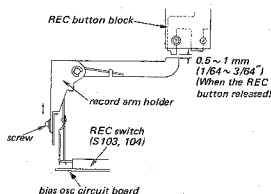

Fig. 3-19. Record button block adjustment
1. See Fig. 3-19. Place the unit in the STOP mode. Check to see that the clearance between the REC button block and the record arm holder is 0.5 (1/64") to 1 mm (3/64"). If necessary, adjust the position of the REC arm holder by loosening the screws.